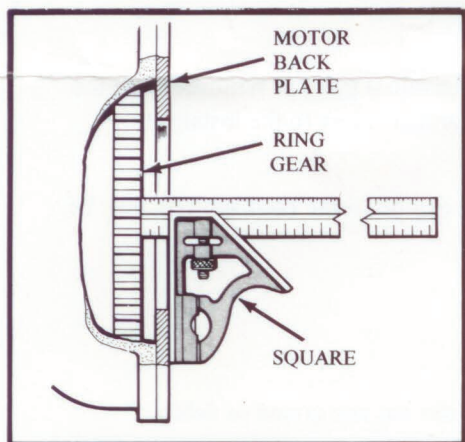
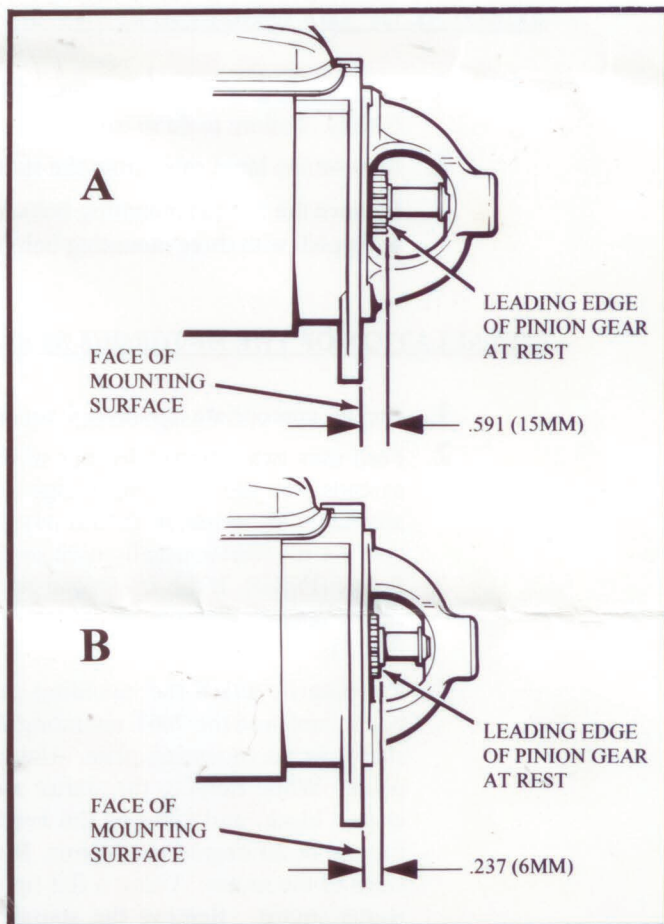
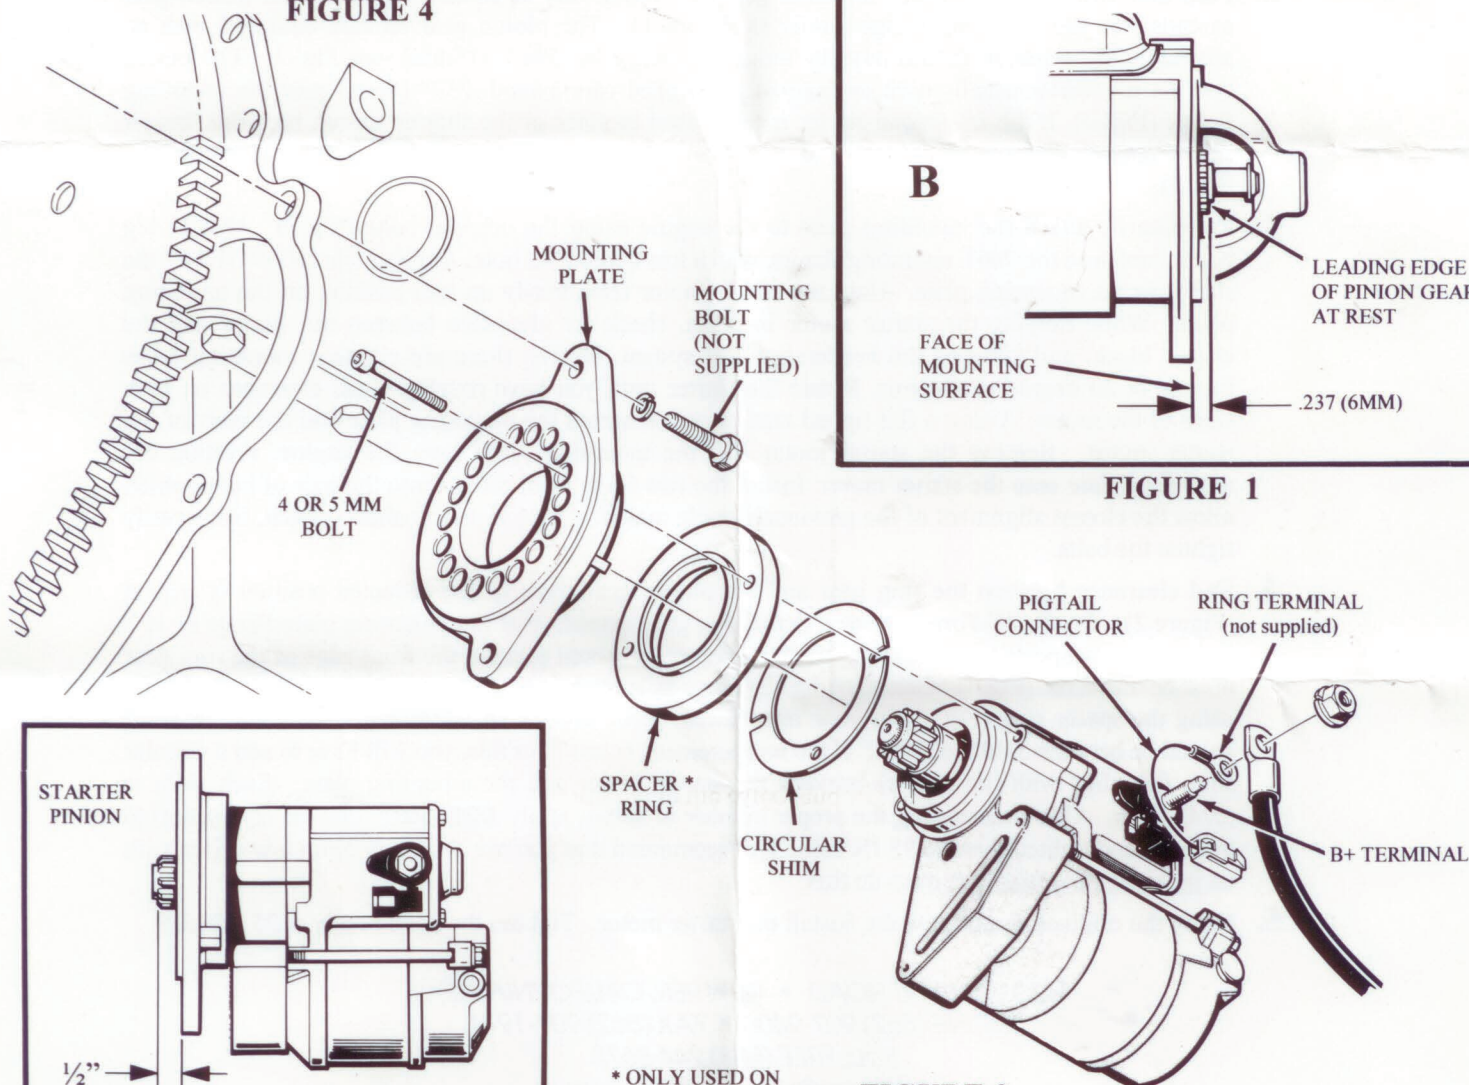

FIGURE 4
FIGURE 1
FIGURE 3
2. Ford uses two different lengths of starter motors. These vary as to how far the starter pinion gear extends past the mounting flange (refer to Figure 1). The pinion gear on cars equipped with an automatic transmission extend past the mounting flange by .591" (15mm) -see Fig1A. The pinion gear on the starter usually used on manually equipped cars extend .237" (6mm) past the mounting flange (Fig1B). If the *Hi-Torque* starter is to be used in place of the shorter starter, then the "spacer ring" supplied with the kit will have to be installed between the mounting flange and the starter (see Fig. 3).
3. Temporarily attach the mounting plate to the engine using the original bolts (Fig 3). NOTE: big block Fords use the 906T mounting flange, which has a threaded hole. At this point DO NOT bolt the starter to the mounting plate. Hold the starter motor temporarily up into position on the mounting plate. While holding the starter motor in place, check for clearance between the starter and the engine block, and between the headers/exhaust system. NOTE: there are eighteen mounting holes located at 20 degree increments. Rotate the starter until you have roughly equal clearance on both sides of the motor. Using a felt tipped marker, mark across the mounting plate and the body of the starter motor. Remove the starter motor and the mounting plate from the engine. Position the mounting plate onto the starter motor. Install the two 5mm allen screws into the pair of holes which allow the closest alignment of the previously made marks. Using a metric allen wrench, temporarily tighten the bolts.
4. End clearance between the ring gear and the pinion gear teeth in the retracted position is critical (Figure 2). On the *Hi-Torque* starter, the pinion gear extends past the mounting plate flange by ½" in the retracted position. The distance from the motor mount plate to the front edge of the ring gear must be measured (Fig.4). Calculate the clearance by subtracting ½" from this dimension. If you are using the spacer ring (Fig. 3) in your installation, then subtract an additional 0.4". The clearance should be between .040" to .100". If the measurement is less than this, you will have to add a circular shim (supplied with the starter) between the starter motor and the mounting plate. Each shim is .074" thick. After determining the proper number of shims, apply **LOCTITE**® 262 (or equivalent) to the bolts and tighten them to 95 IN/LBS. We recommend that you use a 4mm or 5mm hex driver with an inch pound torque wrench to do this.